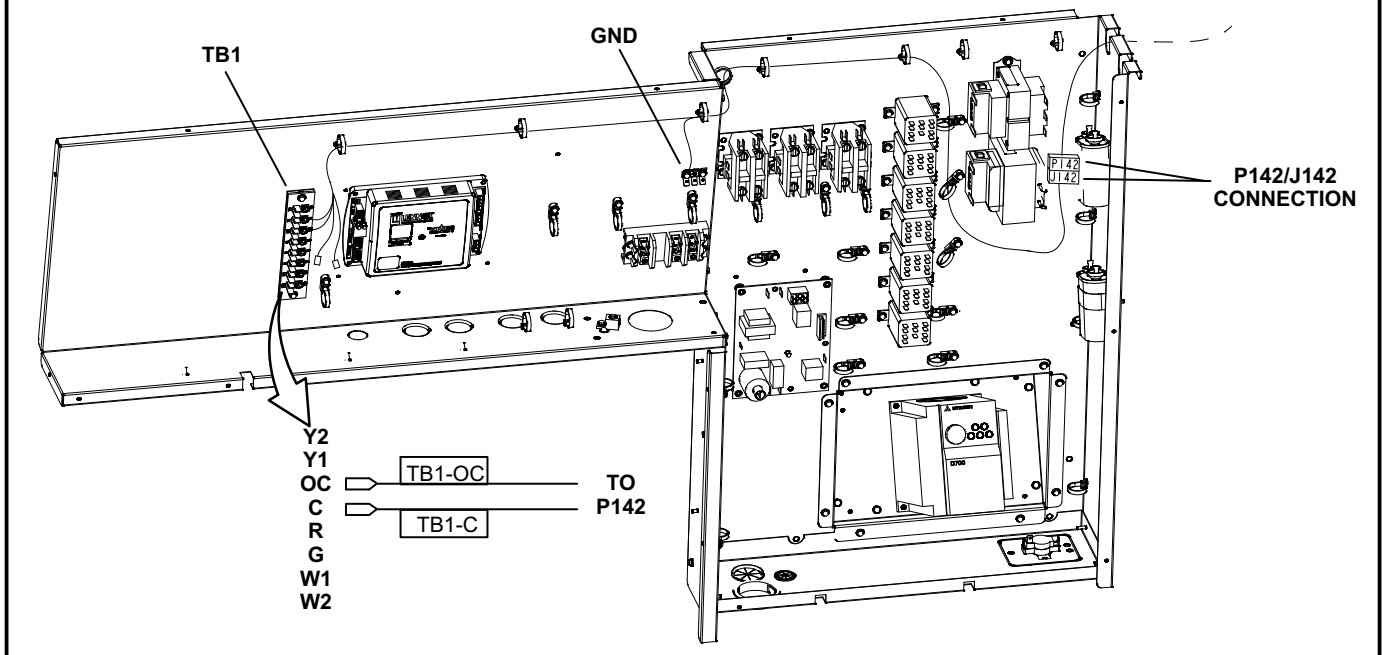

FIGURE 6
- 8- Open compressor access panel on the other side of the unit. Locate the plug (P142) with wires labeled P142-2 & 3 hanging in the upper right area of the control box. See figure 6. Connect the female jack (J142) from the other kit harness to P142. Wires on the other end of the harness are marked TB1-OC and TB1-C. Connect the two wires to the appropriate terminals on TB1. Secure harness to wiring bundle shown in figure 6.